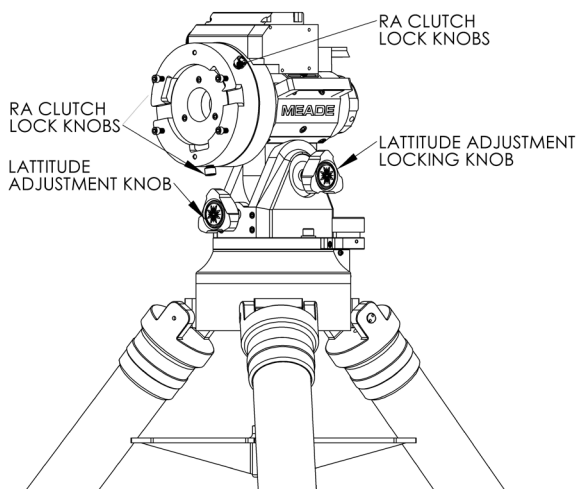

Fig 13: Attach the RA/Base Assembly
2. With the tripod spreader arms (Fig 12, #9) making contact with each leg, tighten the large black knob below the spreader to a firm feel. The mount should look like Fig. 13 and mount should not slip on the tripod head.
5. Using the 5/16" hex wrench tighten the three RA clutch lock screws shown in Figure 13 to prevent the RA assembly (Fig 12, #7) from rotating.